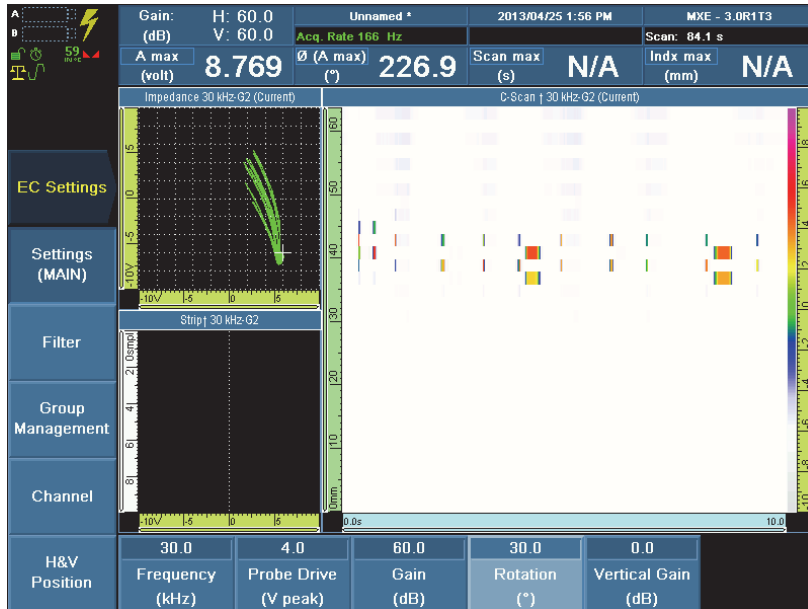

Figure 9-5 Configuring the Gain and Rotation parameters for mixing frequency 2
- e) Select **Rotation** ($^{\circ}$), set the value to orient the signal vertically, and then press the Accept key to confirm. In this example, the **Rotation** ($^{\circ}$) value is set to 30.0 (see Figure 9-5 on page 147).